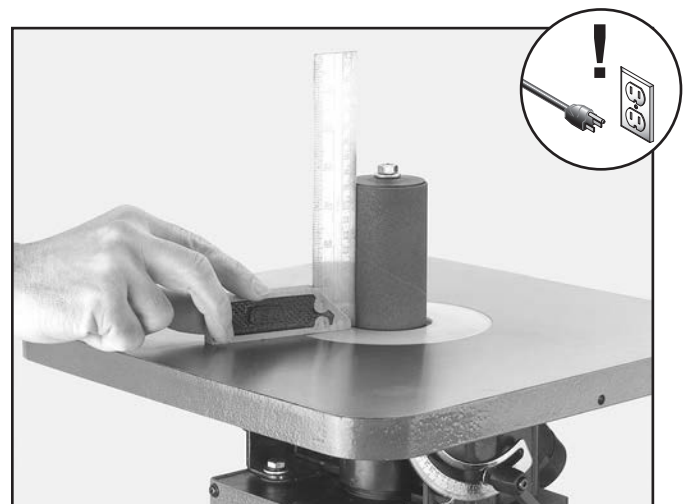

Figure 10. Squaring the table and spindle.
3. Place a machinist square on the table and against the sanding spindle to verify the table is 90° from the edge of the sanding sleeve as shown in **Figure 10**.